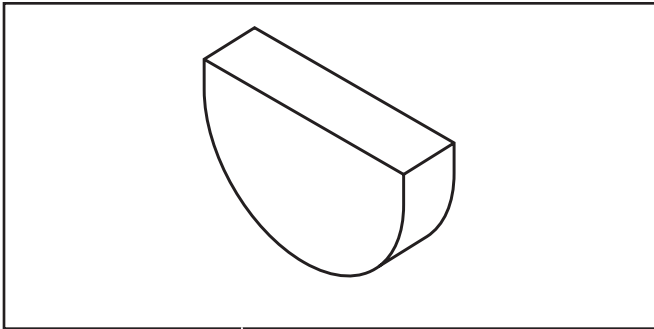

Figure 3. Straight Woodruff Key.
1. Remove the straight woodruff key and discard it. See Figure 3.